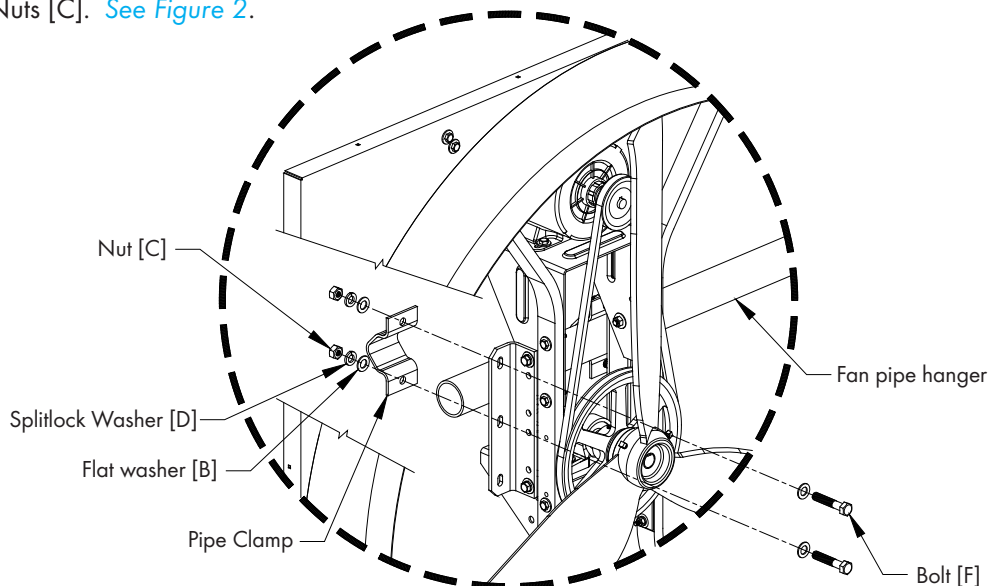

Figure 2
Secure fan to Fan Pipe Hanger using (2) Pipe Clamps and (4) Bolts [F], Washers [B], Splitlock Washers [D] and Nuts [C]. See Figure 2.